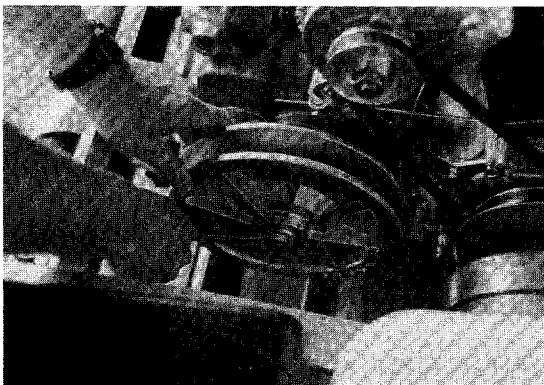

Figure 10-3
3. With transmission in forward or reverse, remove retaining bolt on driven clutch (Figure 10-3). Put transmission back in neutral after bolt removal.